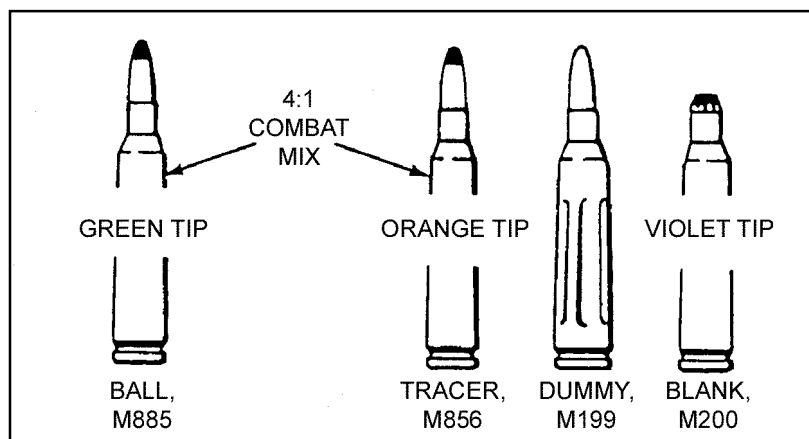

Figure 1-5. Cartridges for the M249.
a. **Type and Characteristics.** The specific types of ammunition (Figure 1-5) and its characteristics are as follows.